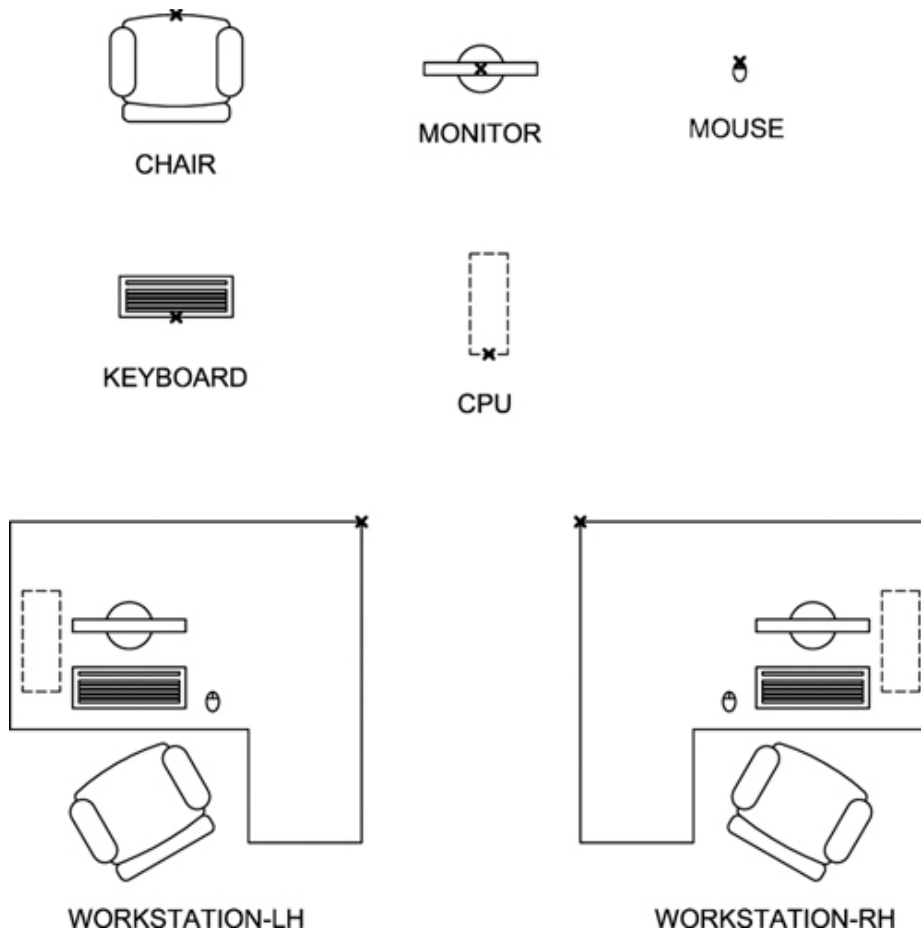

Figure 16-74
2. Create separate blocks for each of the items shown in Figure 16-74 using the insertion points indicated by the “X” symbol.
3. Create blocks for the left- and right-hand workstations as shown in Figure 16-74 using the insertion points shown. Use the blocks created in the previous step as components of the workstation blocks.